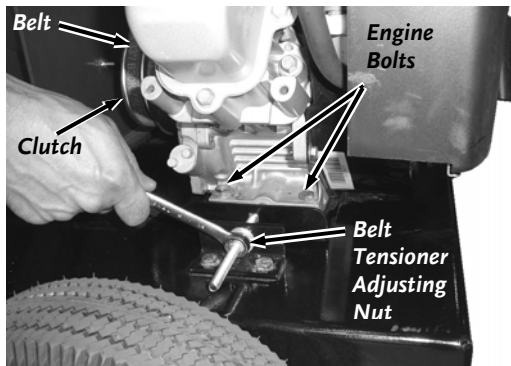

Figure 23
3. Loosen the four Engine Bolts (two on the left side and two on the right side) using two 1/2" Wrenches, one on the Bolt and one on the Locknut underneath the Base (**Figure 23**).
2. Tighten the Adjusting Nut on the Belt Tensioner using a 1/2" Wrench to take up the slack in the Belt, but not too tight at this point (**Figure 23**).
5. Tighten the Engine Bolts (**Figure 23**)
8. If the measurement is not correct, loosen the Engine Bolts and tighten or loosen the Adjusting Nut as needed (**Figure 23**).